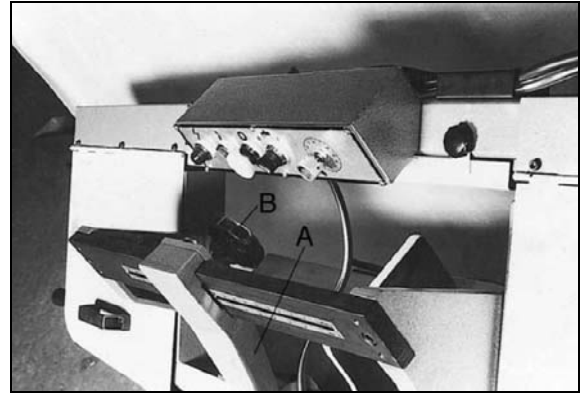

Fig. 7
The blade guides should be set as close to the vise jaws as possible. The right blade guide bracket, is not adjustable and is set at the factory to clear the right hand vise jaw. The left blade guide bracket can be moved to the left or right depending on the position of the left hand vise jaw. To move the left blade guide bracket (A) Fig.7, loosen the hand knob (B), position blade guide bracket and tighten hand knob (B).